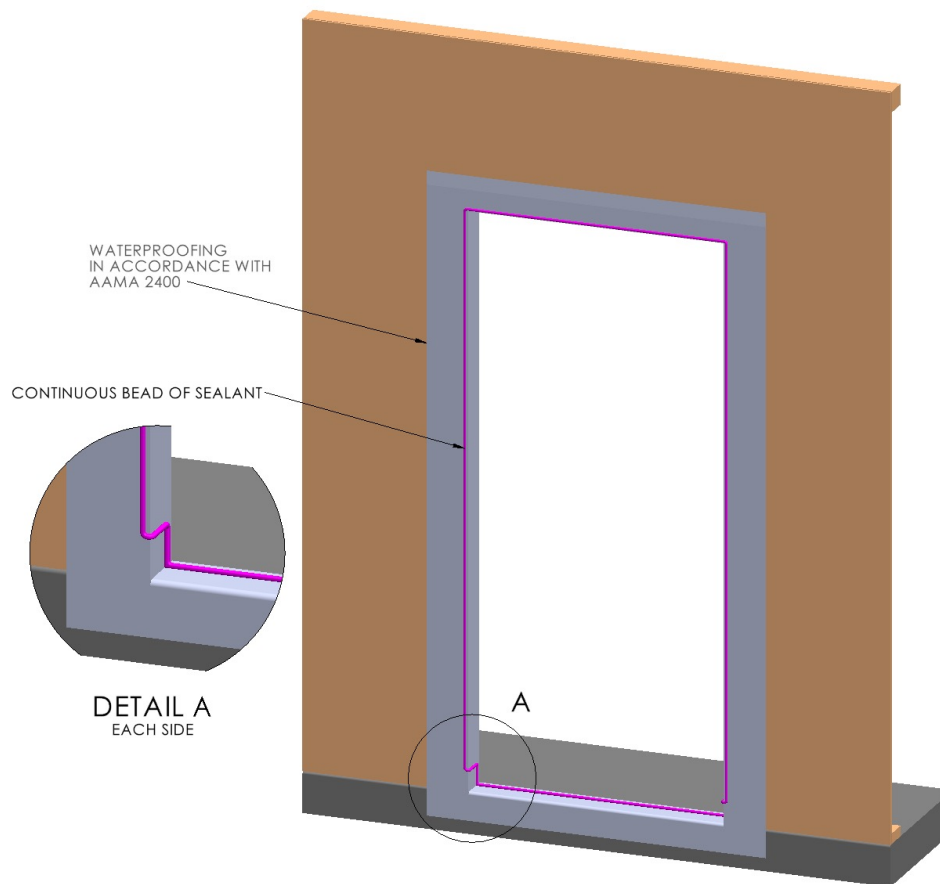

Figure 1
1. Apply a 1/2" continuous bead of sealant to the floor along the interior edge of where the sill threshold will rest and 3" vertically up each jamb, wrapping to exterior of the jamb (where the nail fin will contact), forming a continuous bead of sealant around the full perimeter of the opening. (See Figure 1).